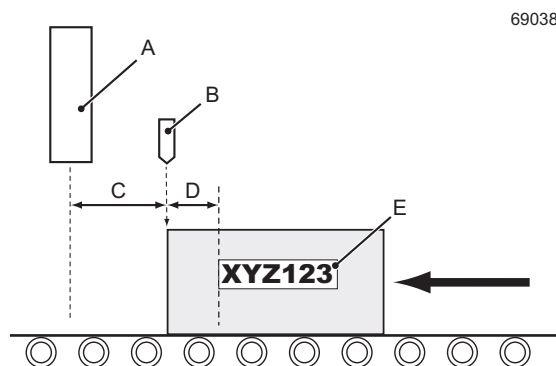

Figure 2-15. Print position
Figure 2-15 helps you understand the print position. The large arrow shows the direction of the movement of the product. In this example, there is a fixed distance (C) between the printhead (A) and the sensor (B) that detects the edge of the product. This distance is the same for all products and all messages. The distance is zero for some installations. The installation engineer enters this measurement into the printer during the installation, but you can change the value. Refer to the *How To* guides for the printers for more information.
In Figure 2-15, the trigger signal from the sensor occurs at the edge of the product, but the label (E) is not at the edge of the product. The distance between the sensor position and the print position (E) is the Print Delay (D).